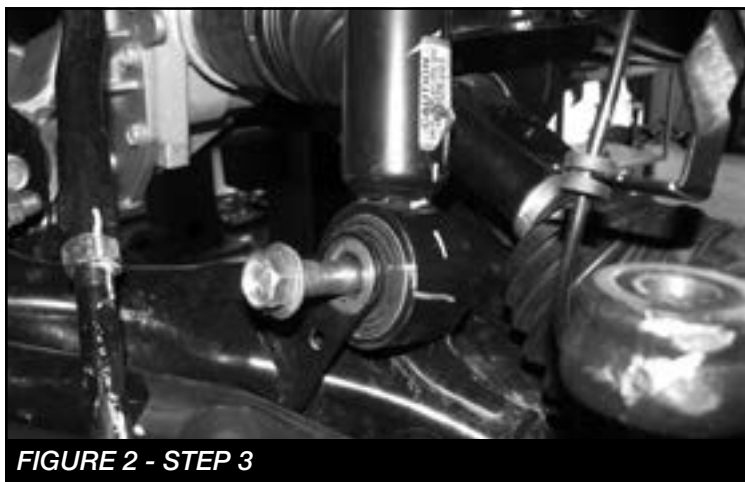

FIGURE 2 - STEP 3
3. Remove the factory coilover lower bolt and upper nuts, and remove from vehicle. Save hardware. **SEE FIGURE 2**